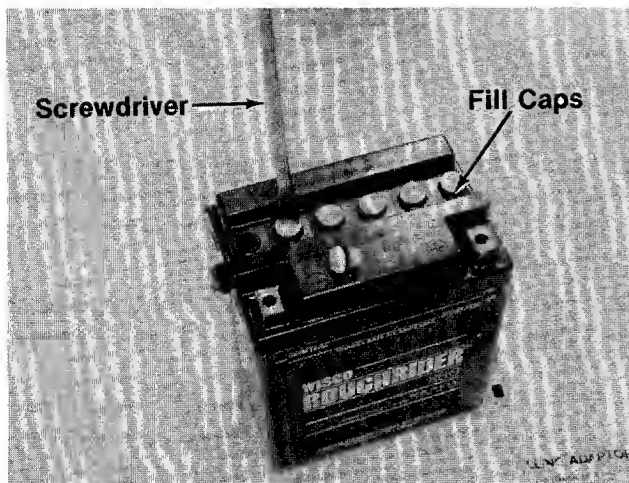

FIGURE 6.
4. Remove the six fill caps from the top of the battery with a screwdriver. Care should be taken not to damage the fill caps. See figure 6.